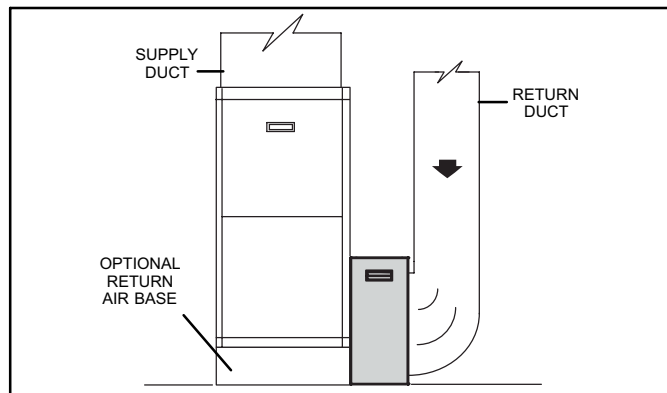

Figure 9. Up-flow Furnace (5 ton, Option 1)
Option 1—Install Return air base, part numbers 98M60, 98M58. HCC20-28 Cabinet is installed vertically and return air enters the furnace side inlet (see figure 9).
2. Align the cabinet opening with the opening on the furnace. (For 5 ton application, use option 1 or 2 [figure 9 or 10]).